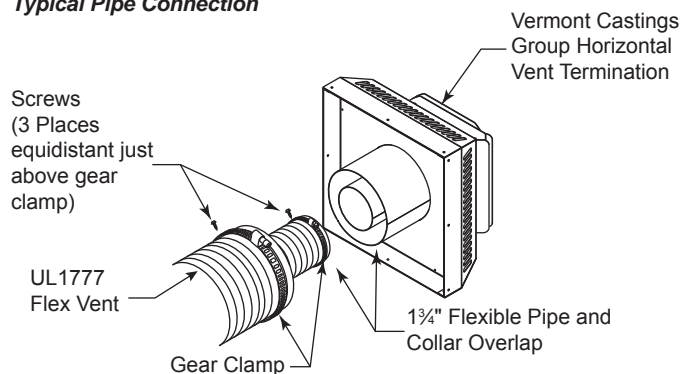

Figure 34 - Typical Horizontal Flex Vent Installation
1. Connect the 5" flexible vent to the horizontal termination as in *Figure 34*.
2. Connect the 8" flexible vent to the termination ring as in *Figure 34*.
3. Review *Figure 34* for proper overlap and clamp placement.
5. Use only listed and approved terminations and accessories, installed per the termination instructions and *Figure 34*.